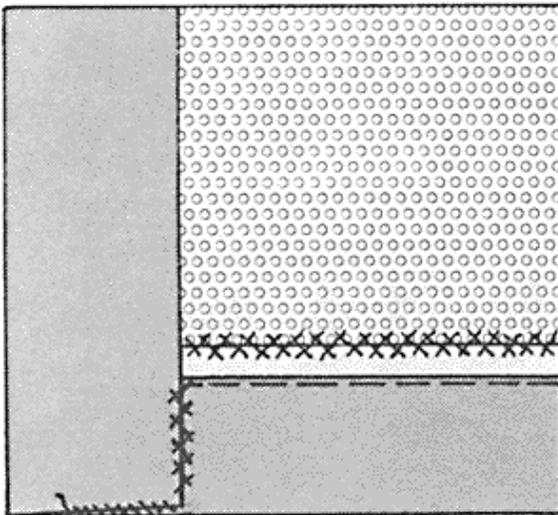

Figure 12.
- For heavier fabrics, catch-stitch the facing edge across the hem with small stitches and slip-stitch the lower edges of the facing (*Figure 12*).